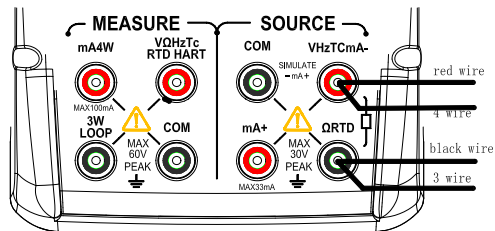

Figure 9. Connection method based on three-wire and four-wire
Step 3: Pressing the (ON) key causes the indicator on the LCD to change from "OFF" to "ON", The terminals source the value displayed on the screen.
Step 4: Reprising the (ON) key stops sourcing, "OFF" mark displayed on the screen. No signals sourced between the terminals.
- Connection method based on three-wire and four-wire as shown in Figure 9
Step 5: Pressing the (ON) key causes the indicator on the LCD to change from "OFF" to "ON" . The calibrator sources the preset resistance value between the output terminals.
Step 6: To turn off the output, press the (ON) key once again. The "OFF" appears on the LCD and no signals sourced between the terminals.